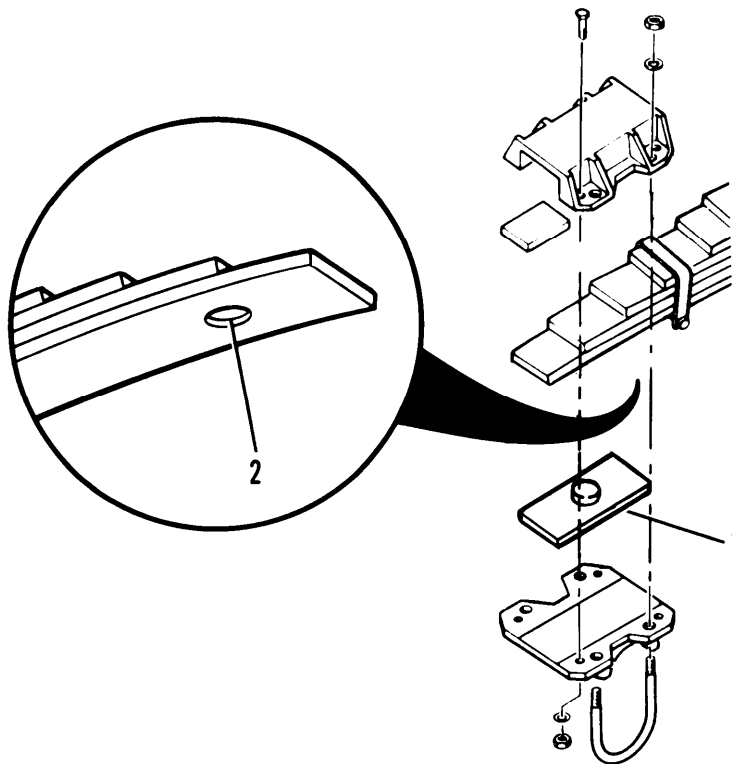

Figure 5-5. Adjustment Plate
- (1) Install camshafts (para. 4-43), brake shoes (para. 4-2), hubs and drums (para. 4-47) slack adjusters (para. 4-41) and spring brake chambers (para. 4-40) if removed.
- (2) Raise front axle into position.
- (3) On both sides of the axle, align raised surface of adjustment plate (1, fig. 5-5) with recessed area on the underside of spring assembly (2).
- (1) Install camshafts (para. 4-43), brake shoes (para. 4-42), hubs and drums (para. 4-47), slack adjusters (para. 4-41) and spring brake chambers (para. 4-40), if removed.
- (2) Raise rear axle into position.
- (3) On both sides of the axle, align raised surface of adjustment plate (1, fig. 5-5) with recessed area on the underside of spring assembly.